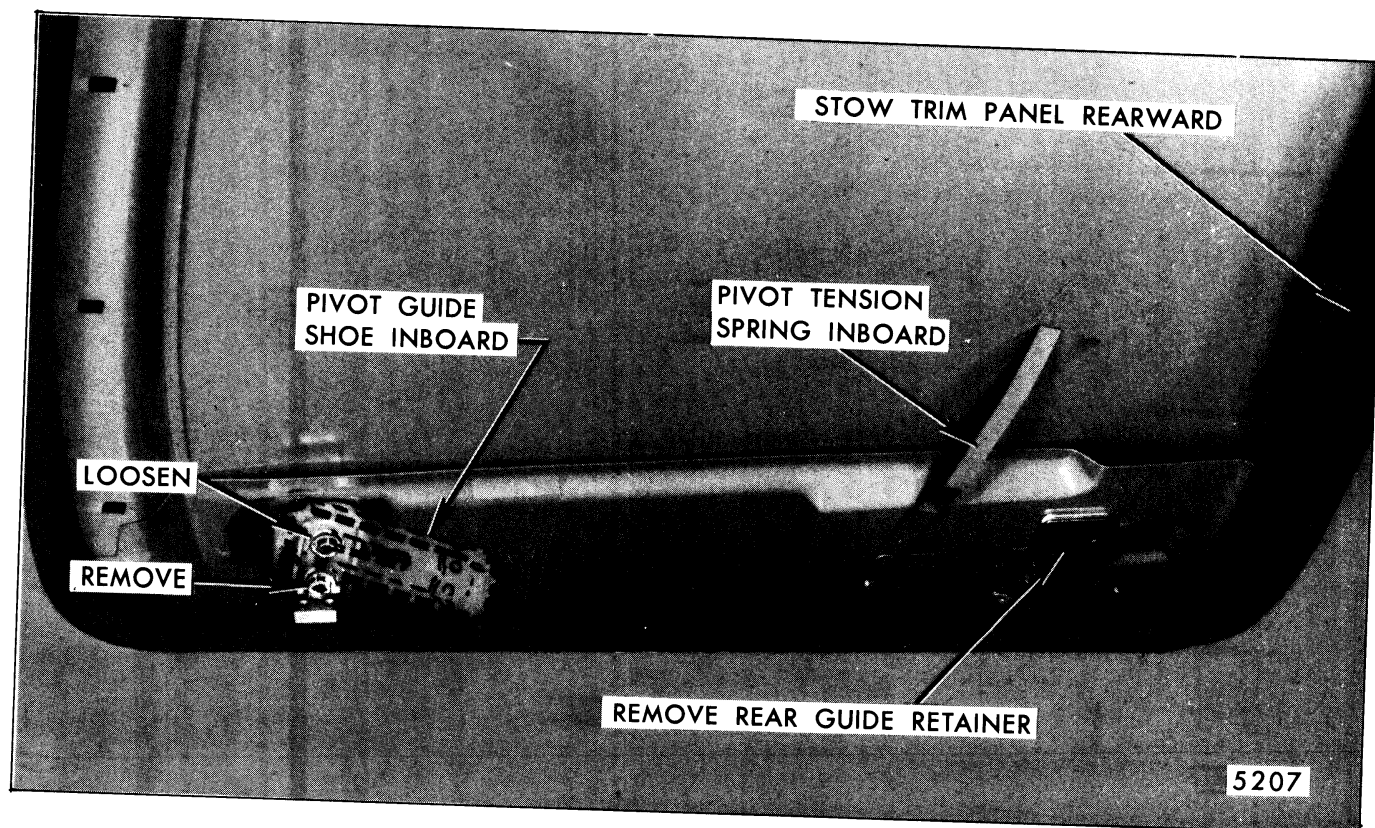

Fig. 8-47-Sunroof Panel Removal
3. Remove outboard screw from each front guide shoe assembly (Fig. 8-47).
4. Loosen inboard guide shoe screw and rotate each front guide shoe assembly inboard to clear guide rail (Fig. 8-47).
5. Remove attaching bolts from rear guide retainer plate to sunroof panel. Remove retainer plates (Fig. 8-47).
6. Disengage rear slide tension springs from their respective rollers and pivot springs inboard (Fig. 8-47).
3. Install outboard screws and tighten both screws on each front guide (Fig. 8-47).
5. Lift rear of roof panel upward and actuate control switch or crank handle to position cable assembly at rear guide attaching plate into alignment with attaching holes on roof panel (Fig. 8-47).